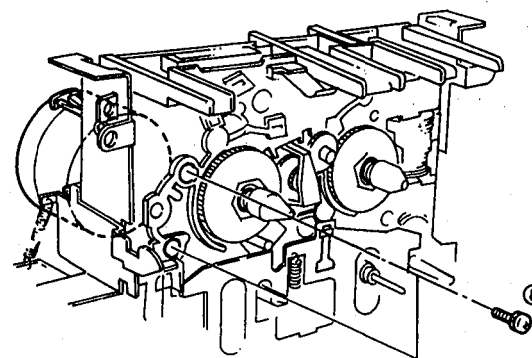

Fig. 8
- Remove 2 screws (⑧) and then remove the Main Motor in Fig. 8.